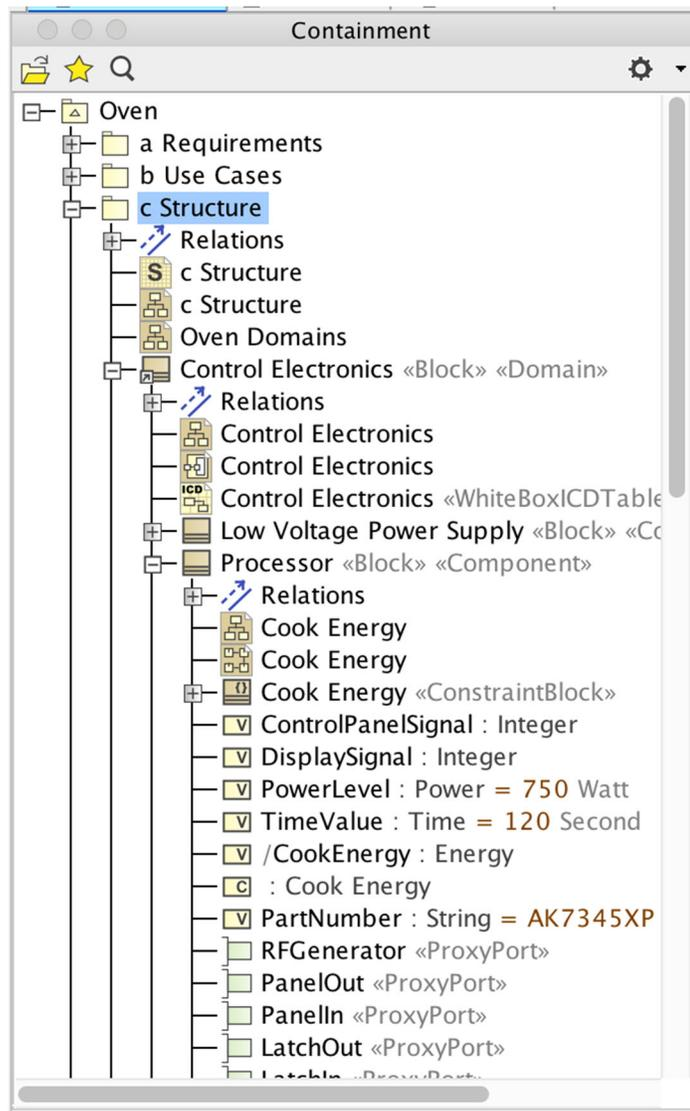

Figure 6. Microwave Oven Example Expanded to Show Containment Tree Organization
- B. This tutorial will show the creation of the model, but first a bit more detailed look into its structure. Fig. 6 illustrates the principles of placing content correctly in the Containment Tree. The figure shows part of the expansion of the Structure Package; successive levels of indenture show the placement of Elements in their context. Entries in the Browser have icons that identify the Element types; these will become clear as the